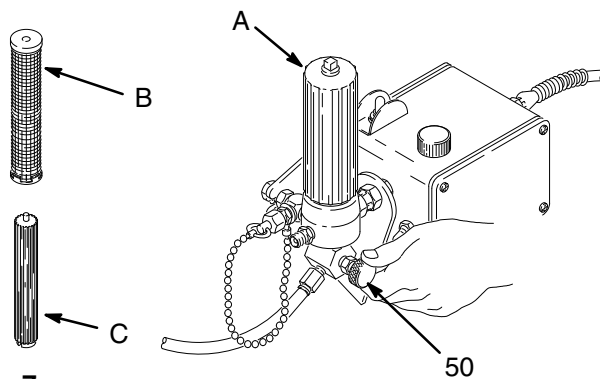

Fig. 7
2. Remove the filter bowl (A), support (C) and screen (B); see manual 307–273. Install the bowl and support. Clean the screen separately and install after flushing.. See Fig 7.